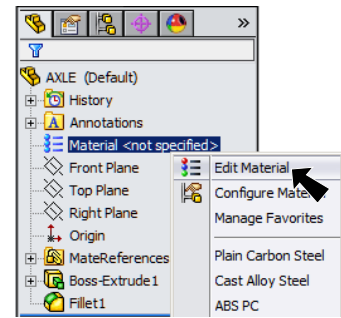

Fig. 12
Step 1. Right click Material  in the Feature Manager and click **Edit Material**, Fig. 12.